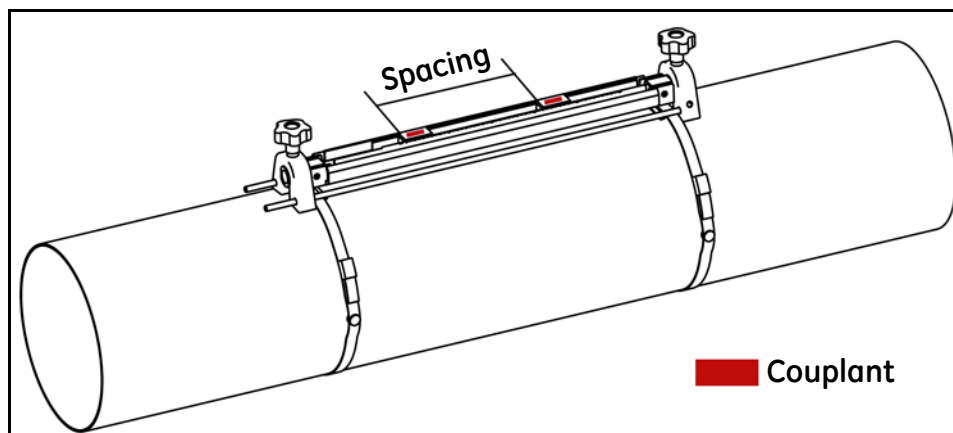

Figure 13: Set Transducer Spacing and Apply Couplant
- b. Set the transducers to the spacing calculated by the meter. If you are using solid couplant, apply it to both transducer faces. Then, rotate the transducers back onto the rail (see *Figure 13* below).